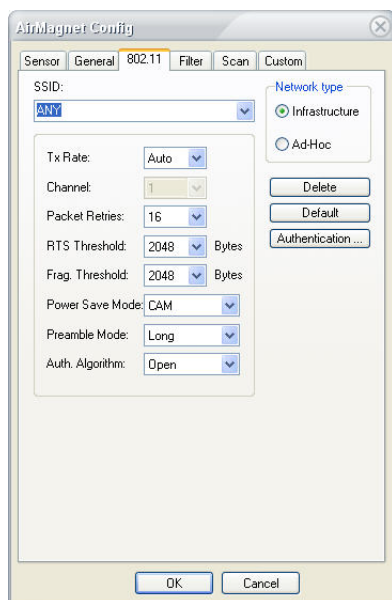

Figure 16-2:Configuring Sensor 802.11 settings
- 1) From the AirMagnet SmartEdge Sensor Configuration screen, select the **802.11** tab. The screen refreshes. See Figure 16-2.